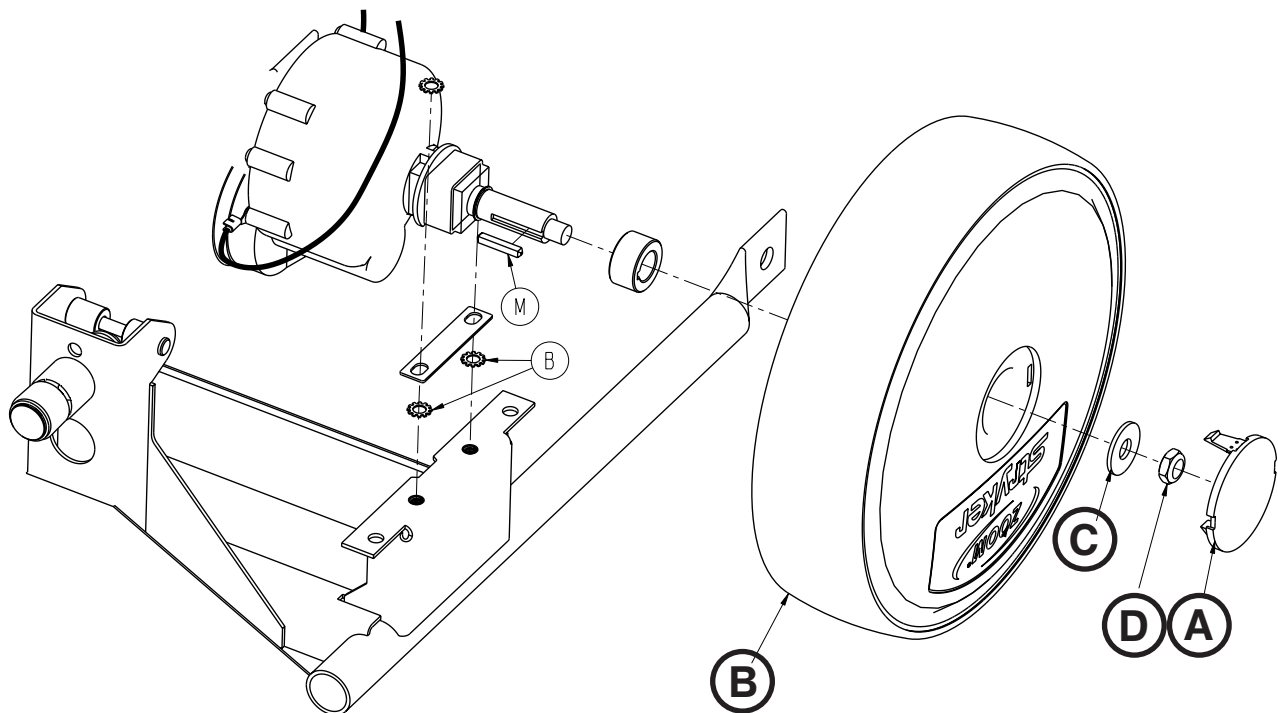

Figure 19
4. Using a large slotted screwdriver, remove the hub cap (A) in the center of the wheel (B) (Figure 19).